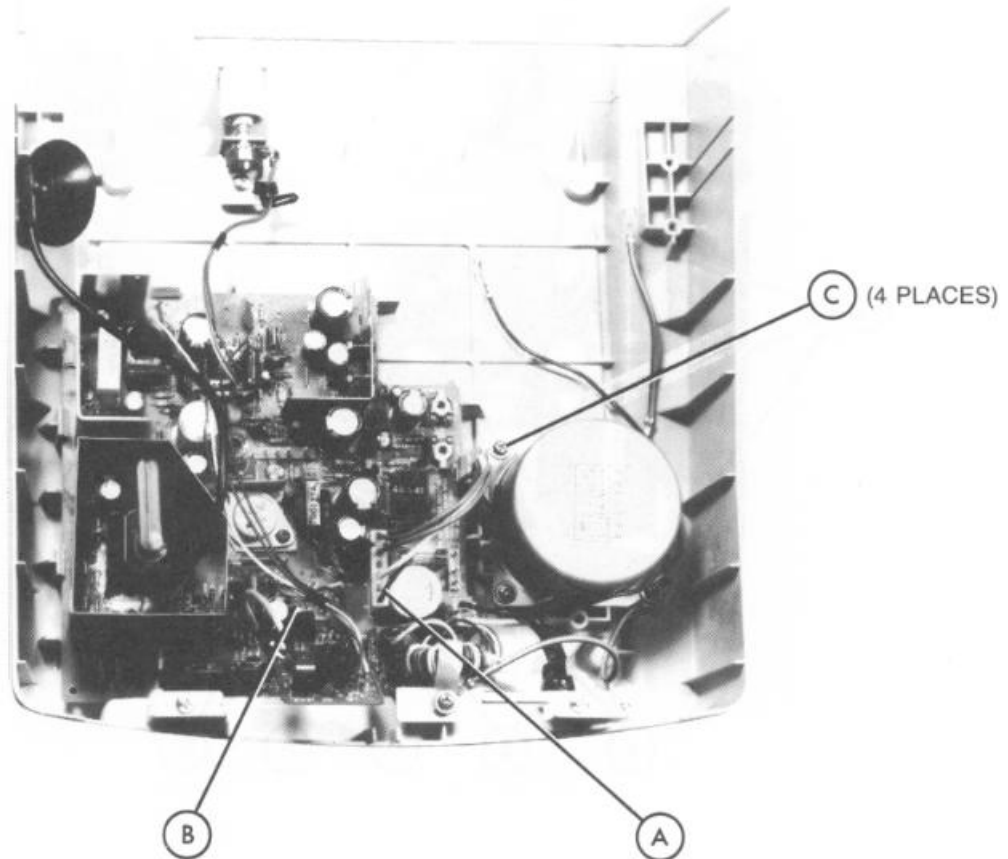

FIGURE 4-19. POWER TRANSFORMER REMOVAL/REPLACEMENT
4.5.5 Power Transformer Removal (Figure 4-19)
4.5.6 Power Transformer Replacement (Figure 4-19)